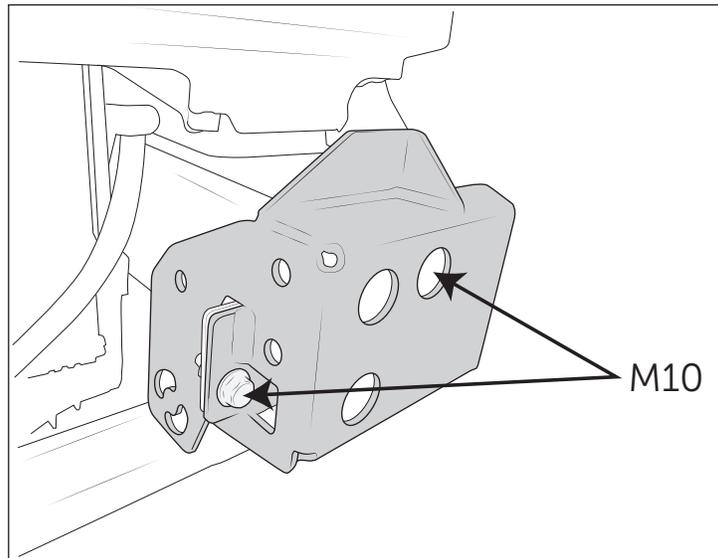

Figure 5: Driver-side Shown
1. Install frame mount brackets using two M10 bolts in the factory locations (fig. 5).